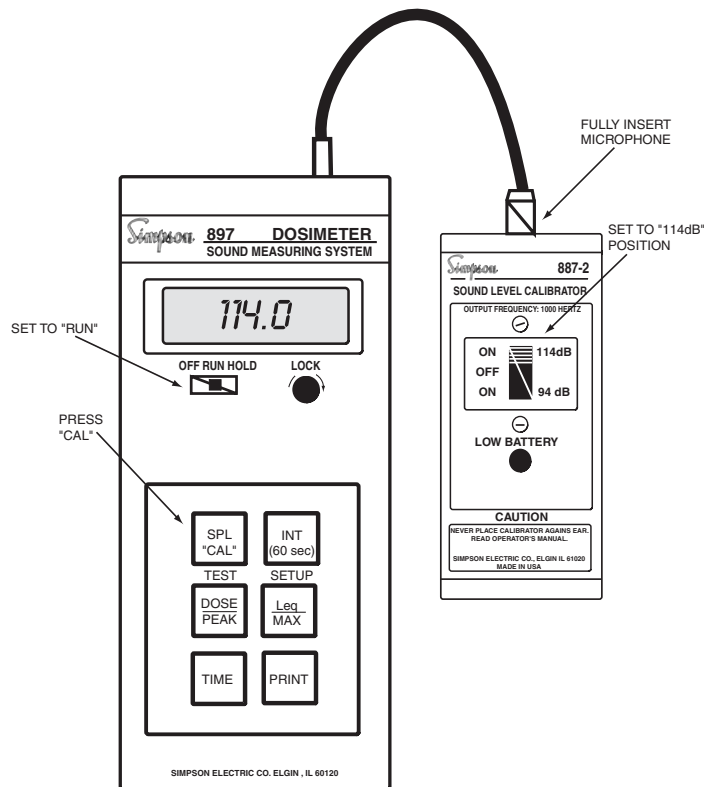

Figure 3-3. 897 Dosimeter Calibration
- If using the windscreen, remove and carefully insert the microphone **fully** into the acoustic cavity of the calibrator (Figure 3-3).
- Set the calibrator power switch to the "ON" position (Figure 3-3) and check that the calibrator battery is okay. (Refer to paragraph 4.1.)
- Set the "OFF-RUN-HOLD" slide switch in the 897 to the "RUN" position. Wait until the Display Test sequence is completed, then depress the SPL (CAL) switch (Figure 3-3).